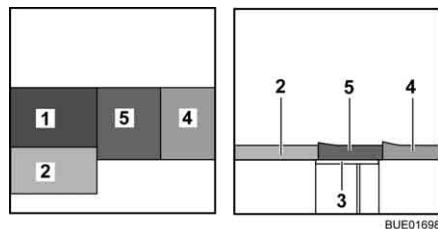

Fig. 131 After conversion
- Place the seat cushion (Fig. 131,5) in the centre.
- Place the back cushion (Fig. 131,4) between the seat cushion and the wall.